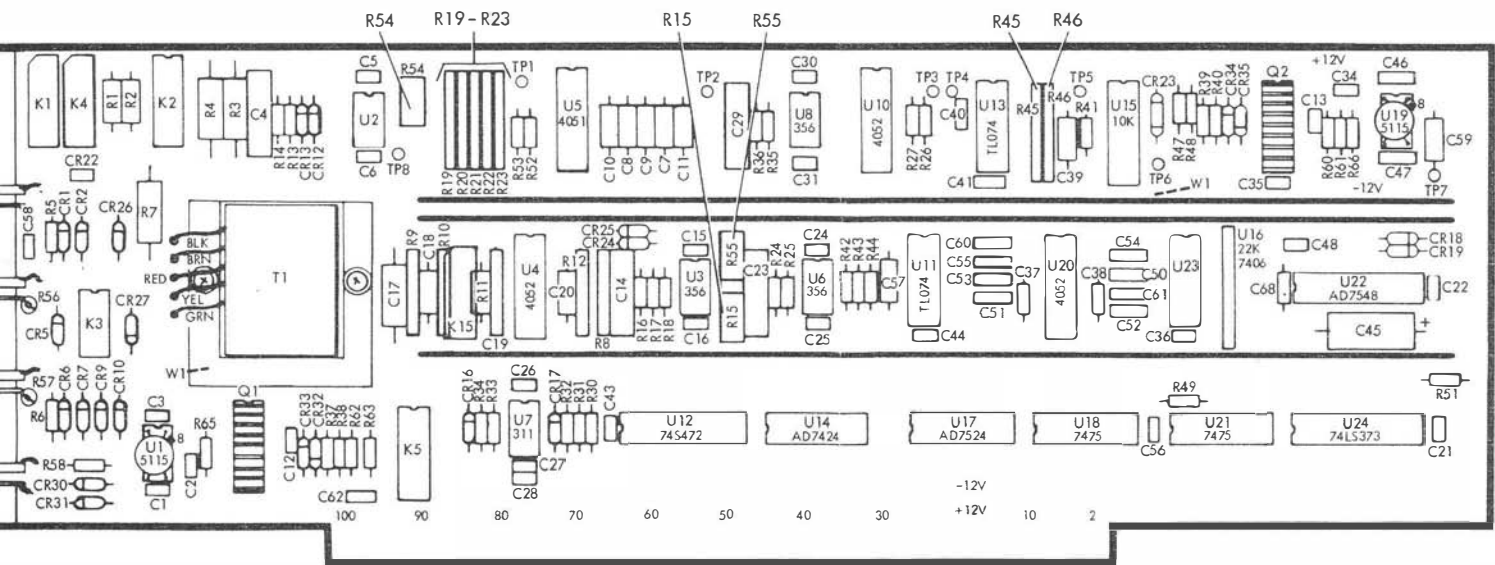

Figure 4-1. Analog Circuit Assembly and Trimmer Locations
STEP 3. Connect a 1 ohm resistor in series with the LO DRIVE (LD) test lead. Be sure to maintain the LD shield connection.
STEP 4. Adjust trimmer R46 (see Figure 4-1) until the CRT display reads the same Rs value as noted in Step 2, +/- 200 $\mu\Omega$.
STEP 9. Adjust trimmer R45 (see Figure 4-1) until the CRT display reads the same Rs value as noted in Step 7, +/- 800 $\mu\Omega$.
4.2.3 High and Low Frequency (D) Phase Adjustments (Analog)
- STEP 17. Adjust trimmer R19 (see Figure 4-1) for a D reading of the calibrated value, ± 0.0005 .
- STEP 18. Remove the 136nF capacitor and insert the 10nF D standard. Adjust trimmer R20 (see Figure 4-1) for a D reading of the calibrated value, ± 0.0003 .
- STEP 19. Remove the 10nF capacitor and insert the 1nF D standard. Adjust trimmer R21 (see Figure 4-1) for a D reading of the calibrated value, ± 0.0003 .
- STEP 21. Remove the 1nF capacitor and insert the 330pF D standard. Adjust trimmer R22 (see Figure 4-1) for a D reading of the calibrated value, ± 0.0002 .
- STEP 23. Remove the 330pF capacitor and insert the 150pF D standard. Adjust trimmer R23 (see Figure 4-1) for a D reading of the calibrated value ± 0.0001 .
- STEP 25. Remove the 150pF capacitor and insert the 1uF D standard. Use the extender card to position the analog card above the instrument. Adjust trimmer R15 (see Figure 4-1) for a D reading of the calibrated value ± 0.00010 .